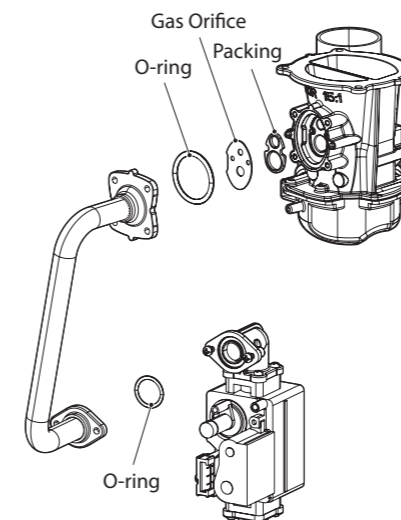

Figure 5. Exploded View of Gas Pipe Assembly
- ALWAYS inspect the O-ring between the gas valve and gas valve inlet adapter whenever they are disassembled (see Figure 5).